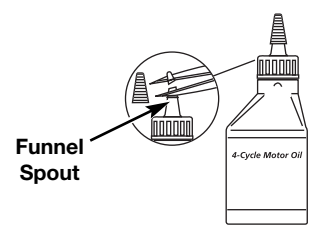

Fig. 1
- Your unit is supplied with one 3.04 fluid oz. (90 ml) bottle of SAE 30 SF, SG, SH oil (Fig. 1).
- Unscrew the top of the bottle of oil and remove the paper seal covering the opening. Replace the top. Next, cut the tip off the funnel spout (Fig. 1).